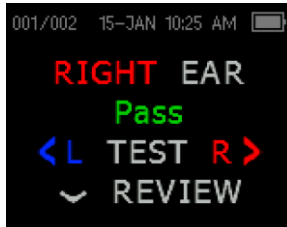
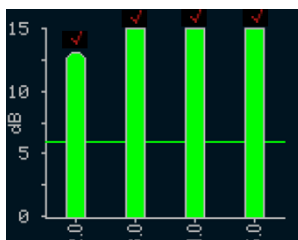

Figure 34
Figure 35
When testing is complete, a result screen (e.g. Figure 34) appears. The result screen shows the tested ear as well as one of the following test results:
- **Review on the screen:** Press **Review** to see the graph view of the test result (Figure 34 and e.g. Figure 35).